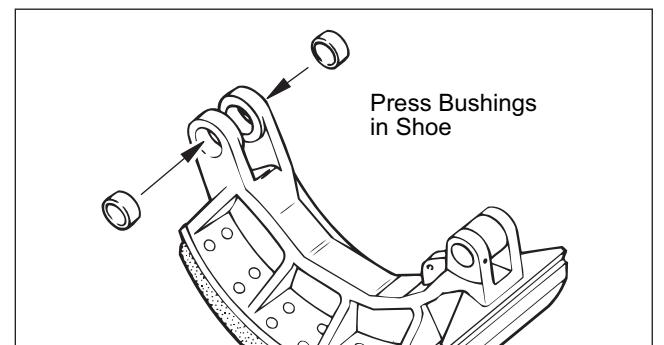

Figure 77. Shoe Anchor Pin Bushing Installation
5. Press anchor pin bushings in brake shoes. Refer to Figure 77.